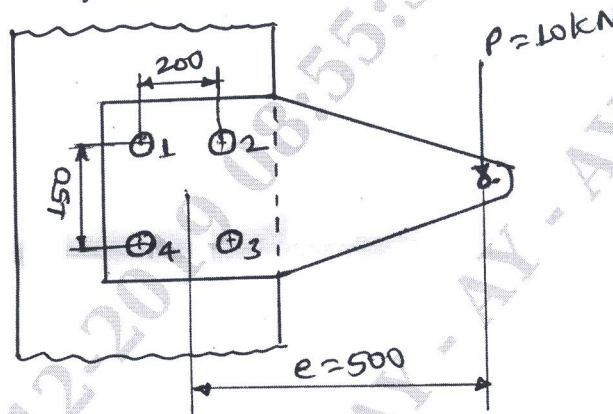

Fig.Q9(a)
- 9 a. The structure in Fig.Q9(a) is subjected to eccentric load $P = 10 \text{ kN}$ with eccentricity of 500 mm . All holes are identical made of carbon steel having yield strength in tension is 400 MPa and factor of safety is 2.5 . Determine size of bolt.